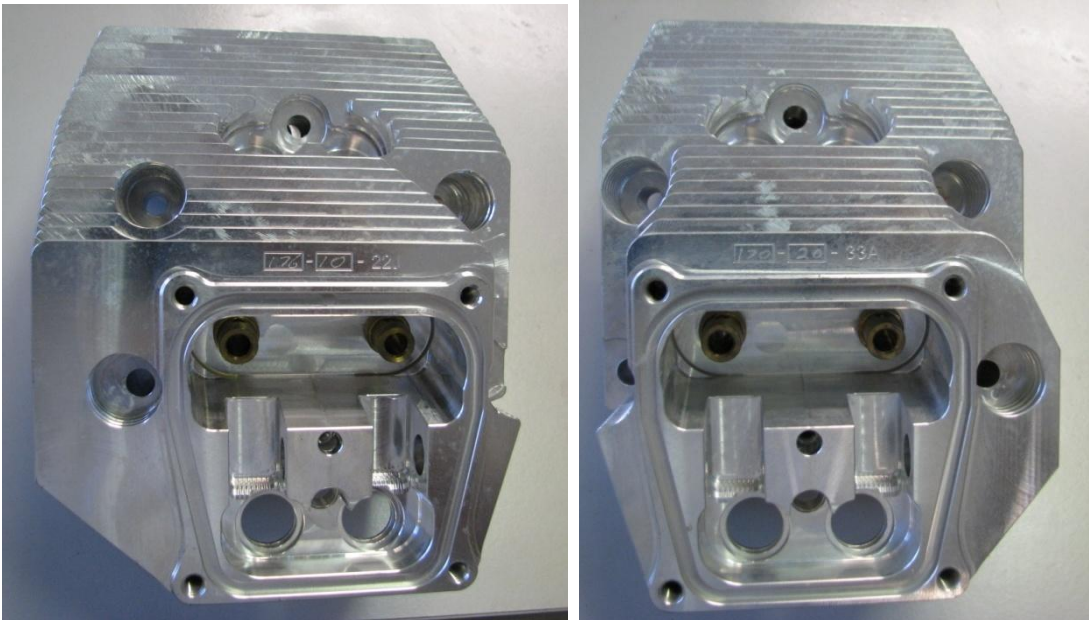

Figure 140 – Cylinder Head Comparison (2200 head on left, 3300 on right).
- Note that the 2200 engine uses two different cylinder heads – one for cylinders 1 & 4 and another for 2 and 3 - Figure 140 refers. The Jabiru 3300 engine uses the same cylinder head for all cylinders – though they are fitted with different induction or exhaust pipes depending on where they are fitted to the engine.